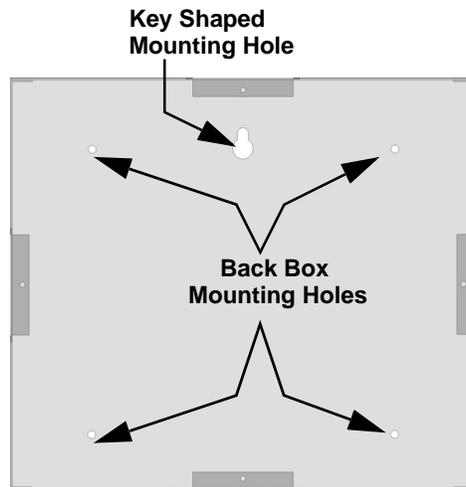

Figure 4-20 Back Box Surface Mount Holes
2. To properly mount the back box, insert a single screw into the key shaped mounting hole. Do not tighten all the way. See Figure 4-20.